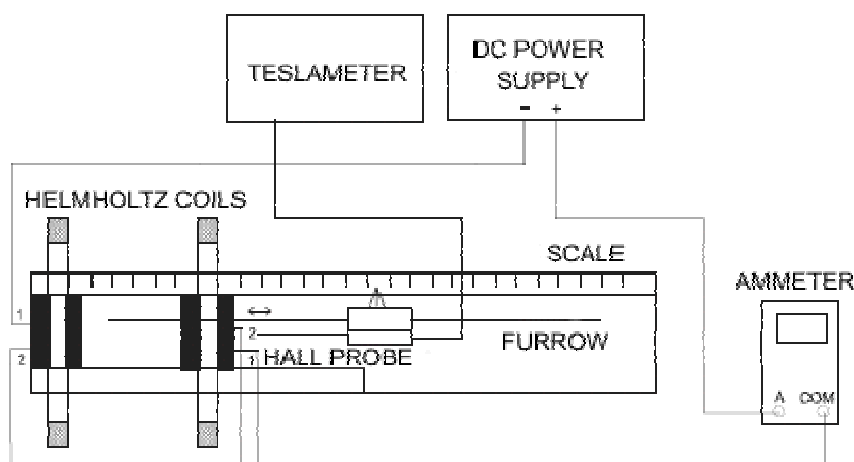

Figure 5. Experimental scheme for the measurement of the magnetic induction on the axis of the Helmholtz coils.
3. Connect the coils, teslameter, power supply unit and ammeter according to the scheme shown in Fig.5. Check the zero value of magnetic induction before starting measurement for each distance of the Helmholtz coils. Adjust the current through the coils to 3 A.